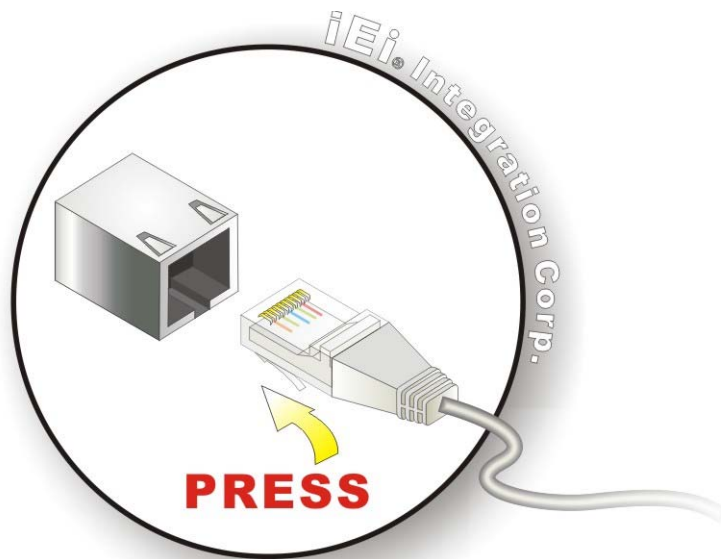

Figure 3-25: LAN Connection
Step 2: **Align the connectors.** Align the RJ-45 connector on the LAN cable with one of the RJ-45 connectors on the ECW-281B-D2550. See **Figure 3-25**.